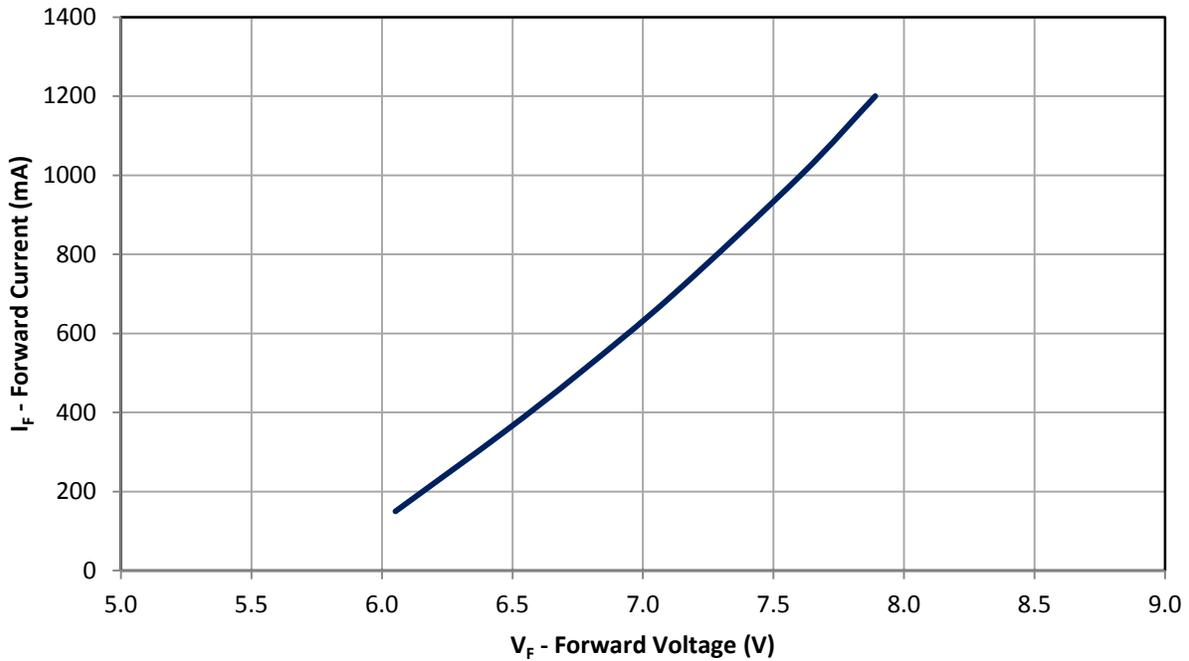

Figure 10: Typical forward current vs. forward voltage @ T_c = 25°C.
- Maximum DC forward current (per die) is determined by the overall thermal resistance and ambient temperature. Follow the curves in Figure 10 for current derating.